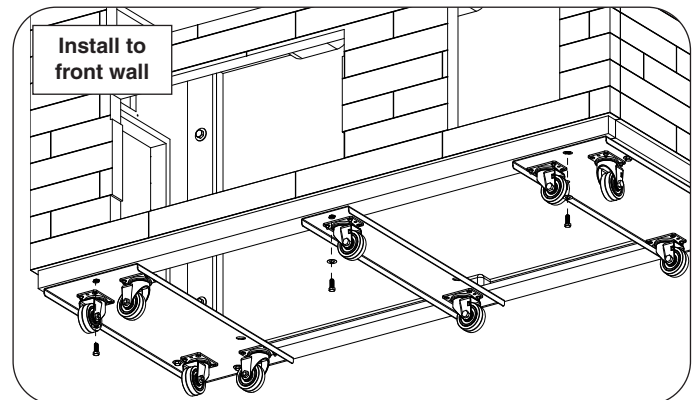

Fig. 5-2 Install wheel assemblies to bottom of front wall
4. Repeat for the front wall using the three wheel assemblies as shown in Fig. 5-2.